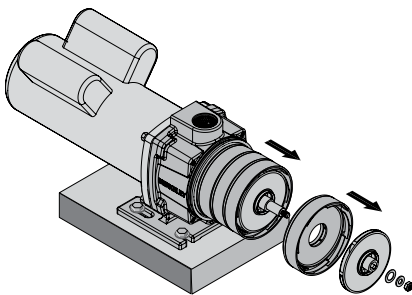

Figure 19
7. Remove the motor canopy, hold the motor shaft with a 7/16" open end wrench, and remove the nut and two washers (Ref. Nos. 14, 13, 12) from the end of the shaft. See Figure 19.
8. Slide the impellers and diffusers (Ref. Nos. 11, 10) off of the shaft (Figure 19).